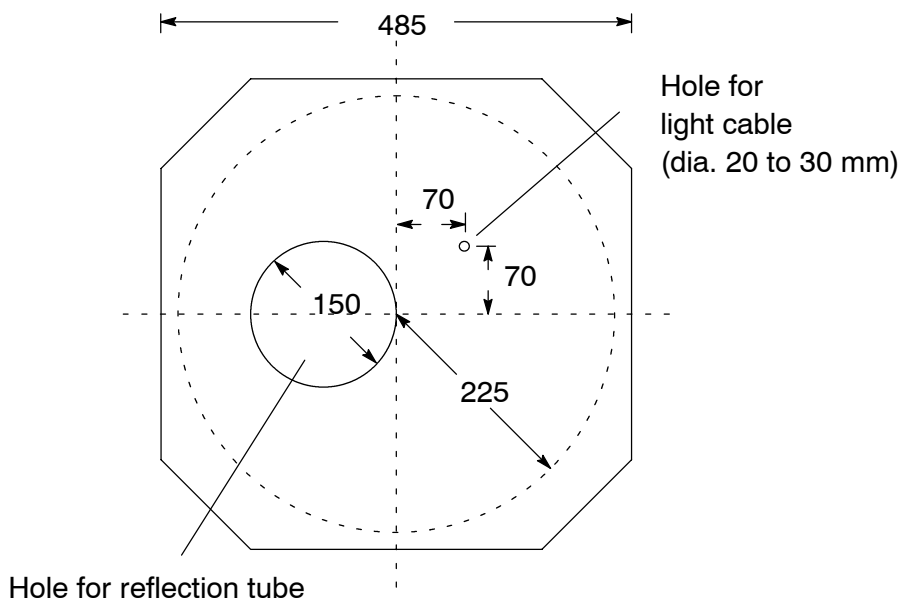
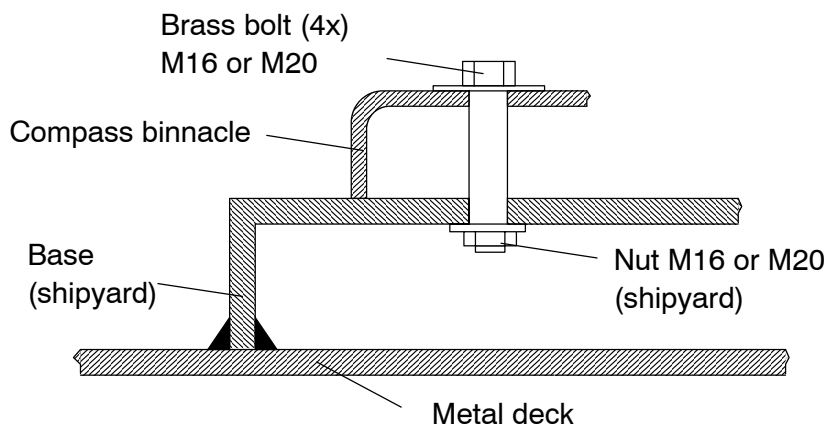

Fig. 6-5: Position of the Holes for Reflection Tube and Light Cable
Fig. 6-8: Mounting the Compass Binnacle
- 1) Prepare a hole for the reflection tube. **Pay attention to different position for REFLECTA 2 and REFLECTA 1, 3 ! See Fig. 6-5.**
- 2) Prepare a hole for the light cable, see Fig. 6-5; diameter 20 to 30 mm, sufficient for the light cables and for the cable of the magnetic sonde (option).
- 9) Prepare the base (approx. 5 cm in height) for the compass binnacle. The base must show the holes for reflection tube and light cable as given in Fig. 6-5. Furthermore, it must be open at the side in order that access is given to the brass bolts for fastening the compass binnacle (see Fig. 6-8).
- 17) Screw on the compass binnacle, see Fig. 6-8.